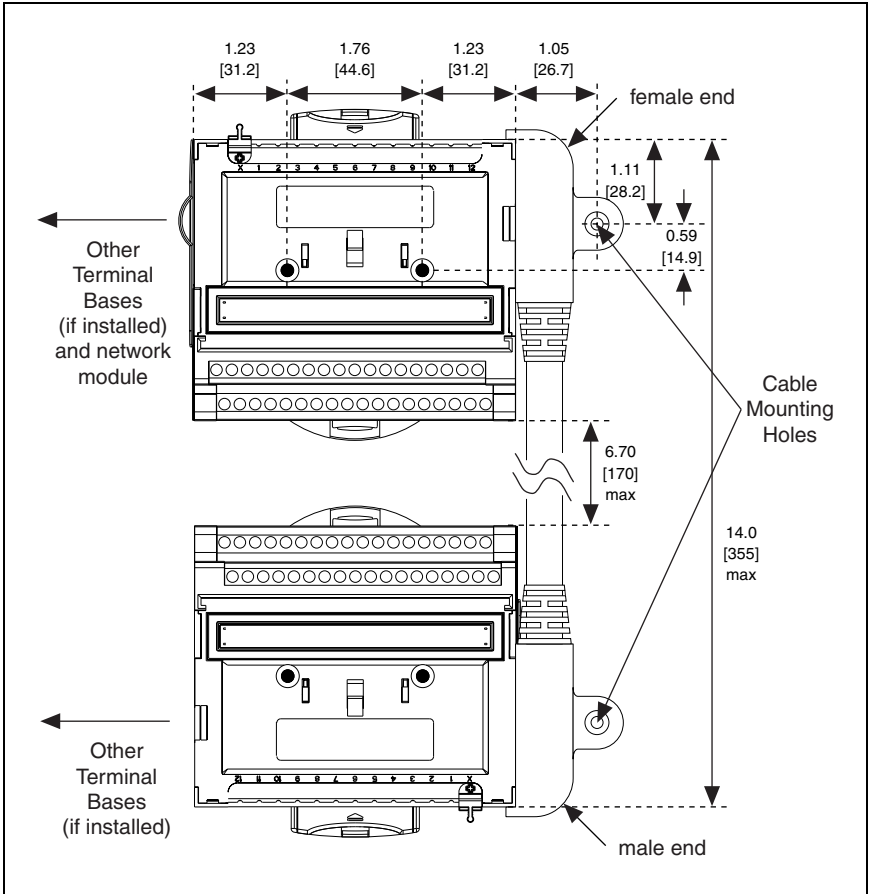

Figure 2. Mounting with Terminal Blocks Together
Figure 2 shows the dimensions for mounting the terminal bases with the terminal blocks together. Dimensions are given in inches [millimeters].
6. If you are not using a mounting bracket, and you intend to mount the DIN rail to a panel, use the long metal spacer that came with the Bus Extender Cable. Drill pilot holes for the cable mounting hole according to the dimensions in Figure 2 or 3. Then place the long spacer under the mounting tab of the Bus Extender Cable and drive a screw through them as shown in Figure 5.
1. Drill pilot holes into the panel according to the dimensions in Figure 2 or 3.